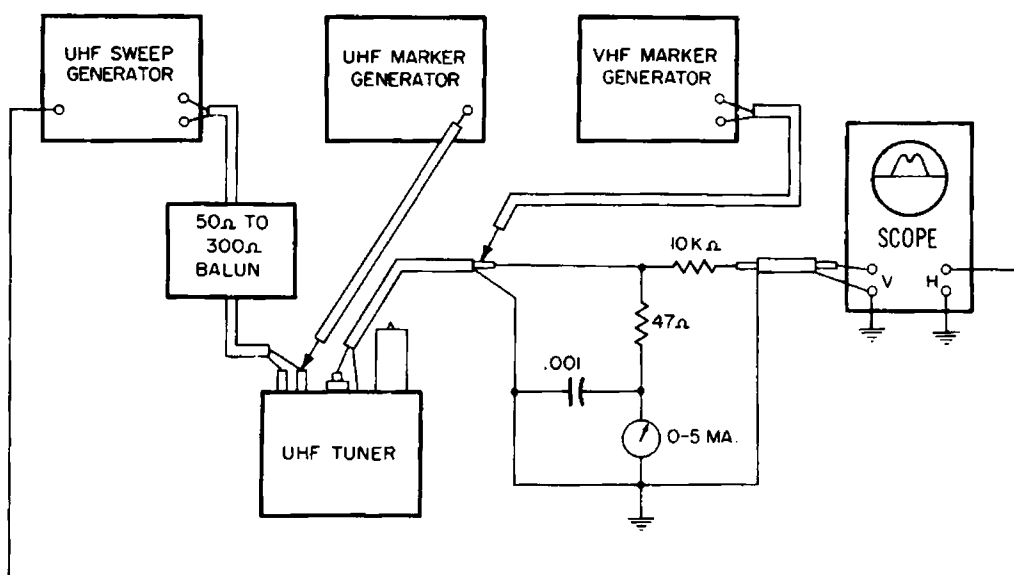

Fig. 7-7. Equipment setup for UHF alignment.
5. Connect the vertical input of the scope, through the network illustrated in Fig. 7-7, to the UHF-tuner output cable.